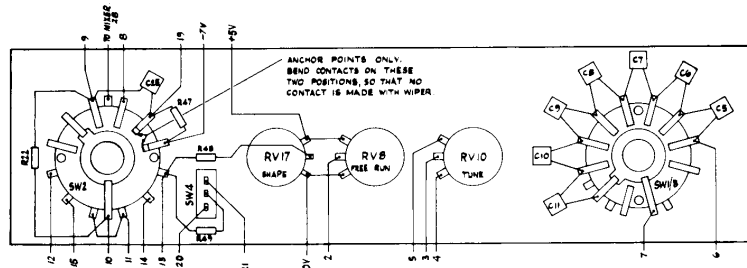

Fig. 12 Front Panel Wiring for Oscillator 1
3. Select triangular waveform and observe the output waveform by connecting the 'scope to point 28 on oscillator 1 (see Fig. 12). This should be as per Fig. 58a (on page 40) and go from 0 to +5V.